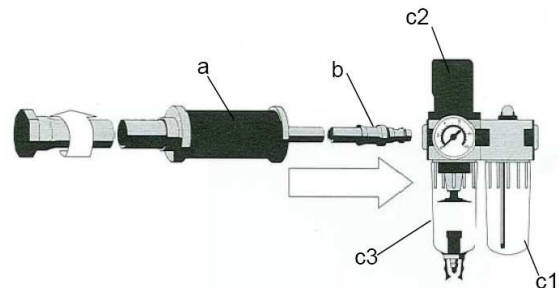

Fig. 1: Maintenance unit
- Connect the compressed air knife with the hose unit (a) and the coupling (b) for single-hand actuation to the maintenance unit (c1 – c3) (see Fig. 1).